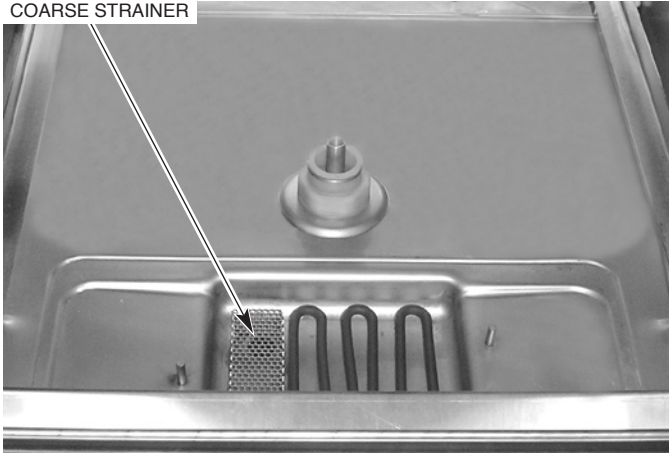
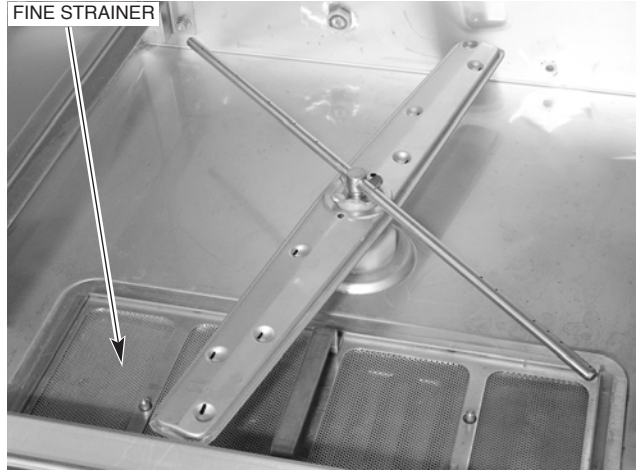
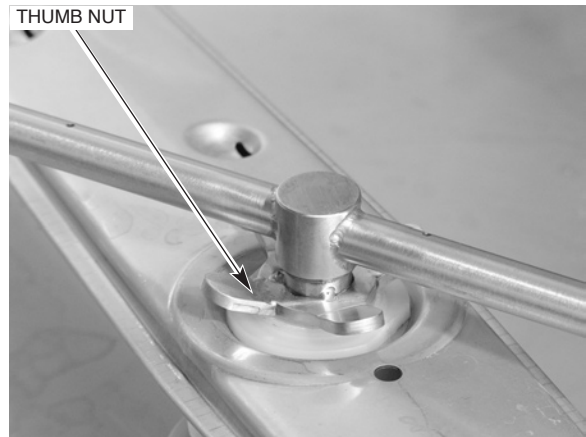

Fig. 7
Fig. 8
Fig. 10
Make sure the coarse (Fig. 7) and fine (Fig. 8) strainers are in place and free of debris. Check both wash arms and rinse arms to make sure they spin freely and are not clogged.
2. Remove the lower rinse arm by unscrewing the thumb nut (Fig. 10). Remove the lower wash arm by pulling the arm off the shaft. Remove the upper rinse and wash arms in the same manner. Remove the coarse and fine strainers. (See Figs. 7 and 8). Thoroughly clean these items in a sink. Remove debris from wash/rinse arm nozzles.